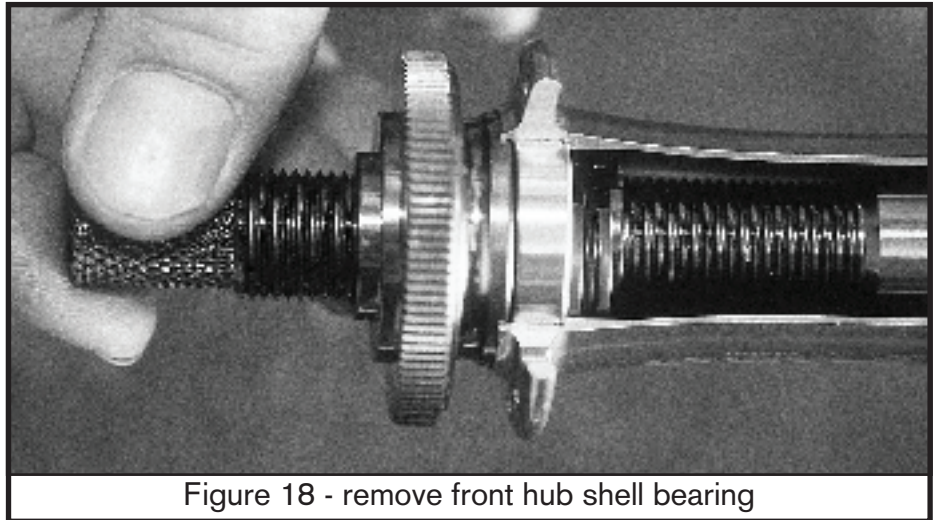

Figure 18 - remove front hub shell bearing
2. While keeping extension shaft from rotating, fully expand small expanding split-ring by turning the T-handle. (See figure 18.)